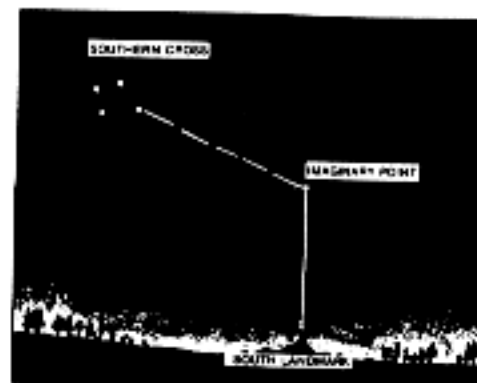

Figure 11-4. Southern Cross
i. South of the equator you can use the constellation Southern Cross to help you determine the general direction of south (figure 11-4). The Southern Cross is a group of four bright stars in the shape of a cross that is tilted to one side. The two stars forming the long axis, or stem, of the cross are called pointers. To determine which direction is south - - -
(1) Imagine the long axis extends from the foot five times its length. The point where this imaginary line ends is in the general direction of south.
(2) Look straight down from this imaginary point to the horizon and select a landmark.